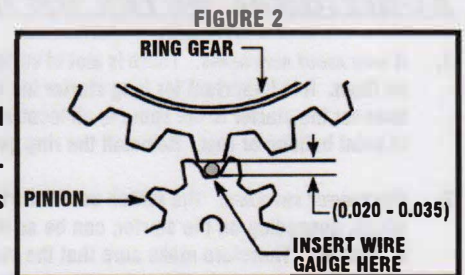

FIGURE 2
- Insert a wire gauge to check for proper clearance between the ring gear and starter pinion (see Figure 2). There should be a 0.020" to 0.035" clearance measured from the Valley of the starter pinion to the tip of the ring gear tooth. (NOTE: A #1 standard paper clip is usually about 0.035" in diameter and makes an easy tool.) Check clear-ance at least three places on the ring gear.